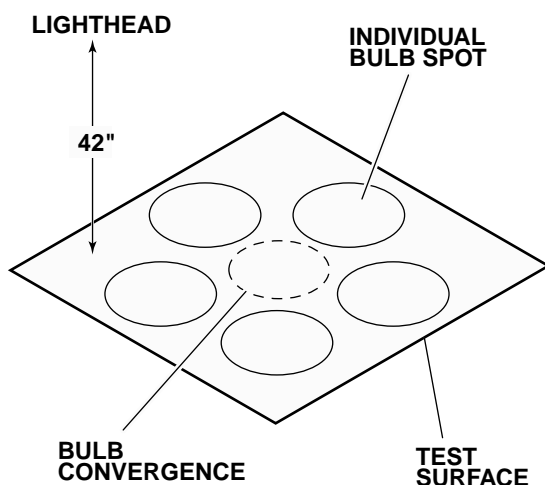

Figure 1-3.
b. Position the lighthouse 42" from a white test surface. Turn main power "ON" and set intensity on low. Adjust focus control to widest pattern diameter so each bulb can be seen individually. See figure 1-3.